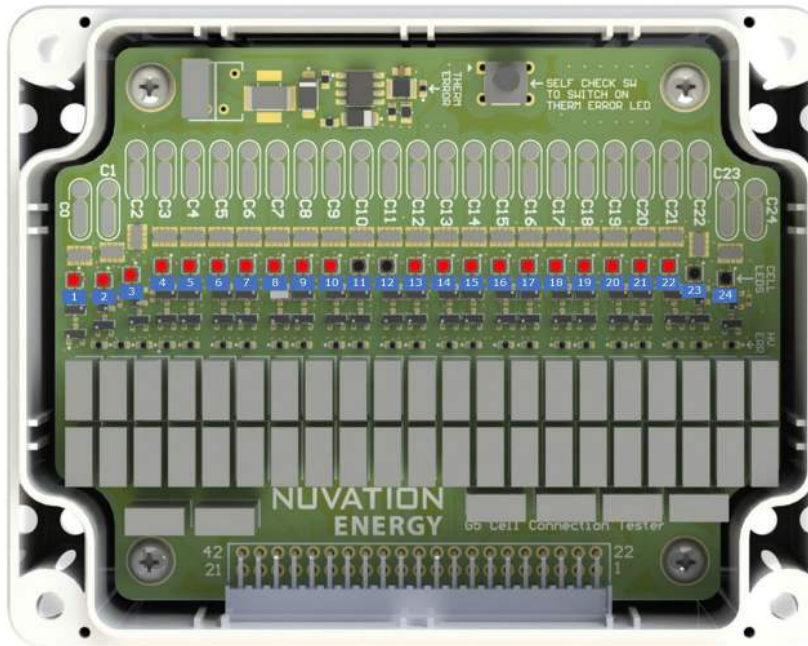

Figure 11. Expected LEDs with 20 1.6 V Cells
This example, assuming that the group of cells all have voltages of 1.6 V, is shown in Figure 11, “Expected LEDs with 20 1.6 V Cells”:
- Cell Voltage LED 1 matches the expected state shown in Figure 11, “Expected LEDs with 20 1.6 V Cells”
- Cell Voltage LEDs 5 through 24 match the expected states shown in Figure 11, “Expected LEDs with 20 1.6 V Cells”